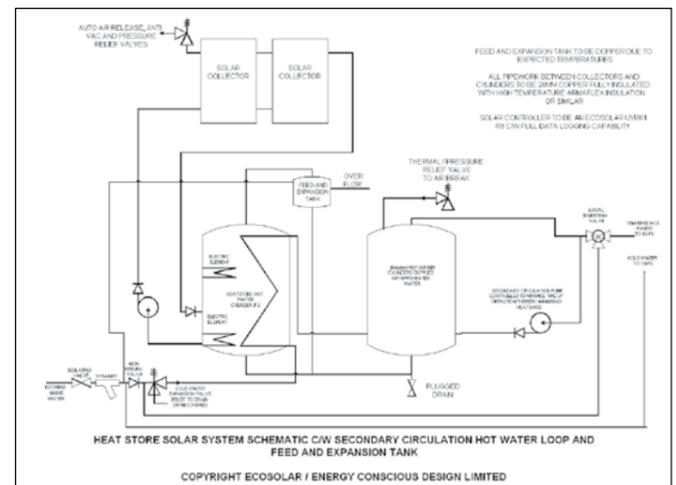

Figure 2: Heat store solar system schematic c/w secondary circulation hot water loop and feed and expansion tank
2. A backup heated cylinder as shown in Figure 2 below. The solar heated water is supplied from the preheat cylinder to the boosting cylinder as its cold water supply. The boosting cylinder may be heated by electric elements, gas boiler or another heat source. Figure 2 shows an EcoSolar heatstore being used as the preheater cylinder.